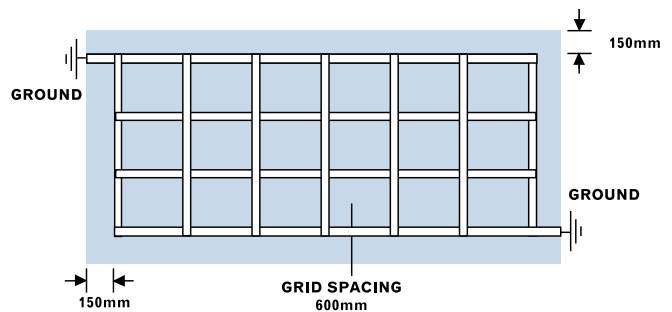

Figure 2 Earth strip layout
- ▶ The strips should be laid to form 600mm square grid across the floor, the perimeter strips being 150mm from the wall (fig. 2).